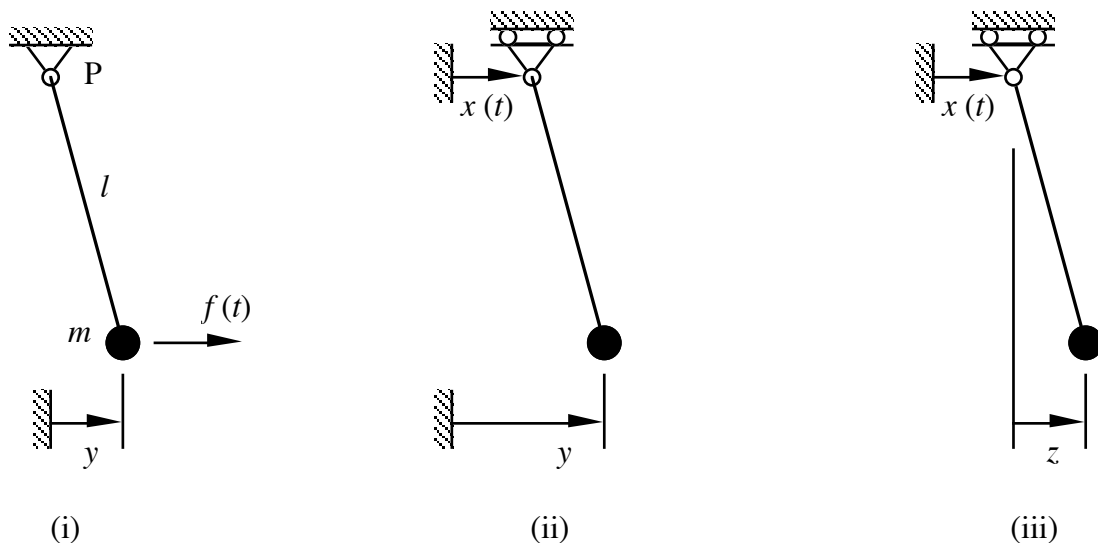

Fig. 3
6. A simple pendulum comprises a bob of mass m at the end of a light string of length l , the top end of which is fixed at a point P as shown in Fig. 3(i). Damping is modeled by a viscous dashpot λ acting between the frame and the bob as shown. Draw a free-body diagram of the bob to show that small oscillations of the pendulum (in the absence of any damping) are governed by the differential equation
Instead of applying a force $f(t)$ to the bob, vibration is excited by means of a time-varying horizontal motion $x(t)$ of the frame as shown in Fig. 3(ii). With reference to your free-body diagram, show that small oscillations are now governed by the differential equation
Now instead of measuring the absolute motion y of the bob, we measure motion $z = y - x$ of the bob *relative* to the frame as shown in Fig. 3(iii). Show that small oscillations are governed by the differential equation